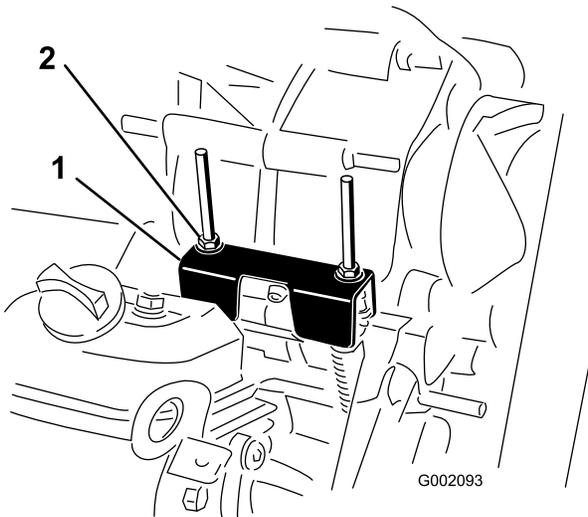

Figure 64
When performing routine maintenance and/or engine diagnostics, the transaxle must be shifted into NEUTRAL (Figure 64). The machine has a NEUTRAL position on the shift lever, which controls the neutral in the transaxle. The following steps should be taken to make sure that the neutral shift lever operates the transaxle neutral correctly:
2. Ensure that the neutral bracket is in the NEUTRAL position (level to the cable mounting bracket located below the shift bracket) by turning the driven clutch (Figure 64).
3. Rotate one of the locknuts (Figure 64) to achieve a 0.762 to 1.524 mm (0.030 to 0.060 inch) gap between the bottom of the nut/washer and the neutral bracket.